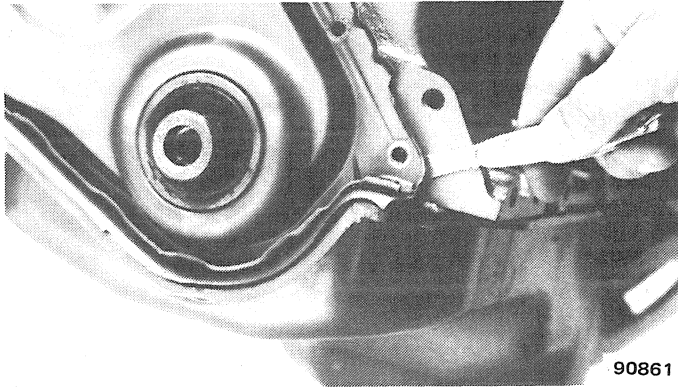

Fig. 1B-19 Cutting Pan Gasket
- (1) Remove battery negative cable.
- (2) Remove crankshaft vibration damper pulley hub. Refer to Crankshaft Vibration Damper Pulley Hub Replacement.
- (3) Remove alternator bracket.
- (4) Remove fan and shroud nuts. Loosen belts. Remove fan and shroud.
- (5) Remove oil pan-to-timing case cover screws.
- (6) Pull cover slightly forward only enough to permit cutting of oil pan front seal.
- (7) Using sharp knife or other suitable cutting tool, cut oil pan front seal flush with cylinder block at both sides of cover (fig. 1B-19).
- (8) Remove front cover and attached portion of oil pan front seal. Remove front cover gasket.
- (9) Clean gasket surfaces on block and timing case cover.
- (10) Cut tabs from replacement oil pan front seal (fig. 1B-20). Use sharp instrument to ensure clean cut.
- (11) Install seal on timing gear cover. Press tips into holes provided in cover.
- (12) Coat gasket with gasket sealer and place in position on cover.